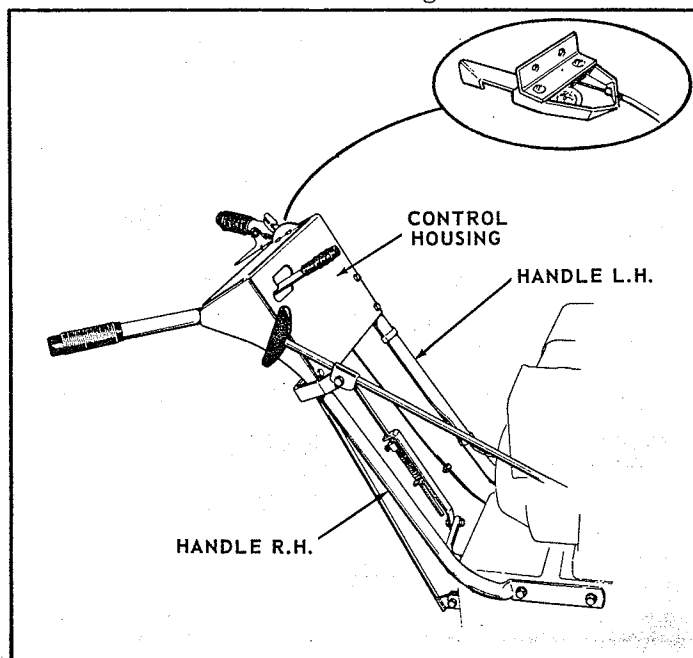

FIGURE 2
3. Fasten the Left and Right Handles loosely to the sides of the Frame Assembly using the 3/8" x 7/8" capscrew and 3/8" lockwashers. Do Not tighten securely at this time. See Fig. 2.
4. Install the Control Housing Assembly to the handles using the 1/4" x 1-1/2" capscrews in the top holes and the 1/4" x 1-3/4" capscrews in the bottom holes. Do not attach nuts and lockwashers at this time. See Fig. 2.
self tapping screws. Attach speed nuts to throttle control bracket. Mount throttle control assembly to the handle cover using the (two) 10-24 x 1/2" hex head self tapping screws. Install the cable clamps to the handle, approximately 5" from the control housing and 5" above the frame. See Fig. 2.